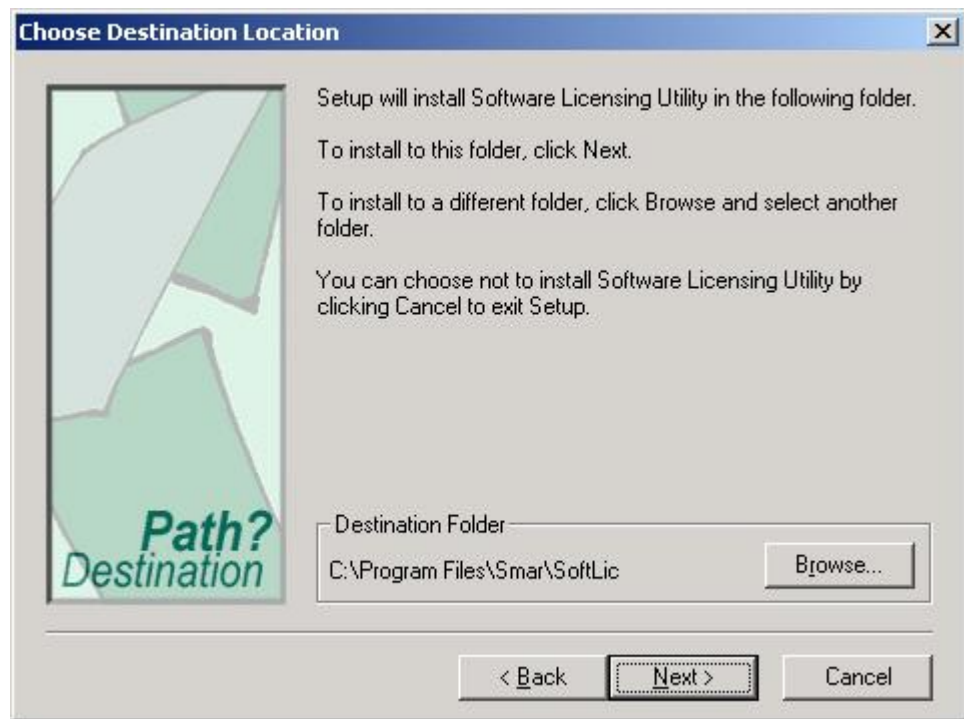

Figure 3.4. Choosing the Installation Directory
8. Choose the destination directory for the installation, as shown in **Figure 3.4**. This defaults to *Program Files\Smar\SoftLic*. If you want to install the License Utility in a different directory, click **Browse**. Click **Next** to continue.